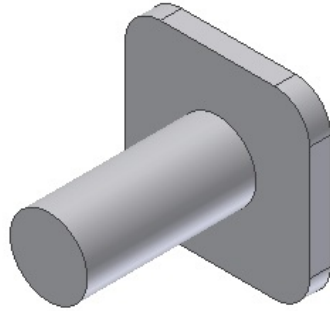

Figure 7-66 Cylindrical feature created
2. Invoke the **Extrude** tool and then extrude the circle to a distance of 96 mm, as shown in Figure 7-66.